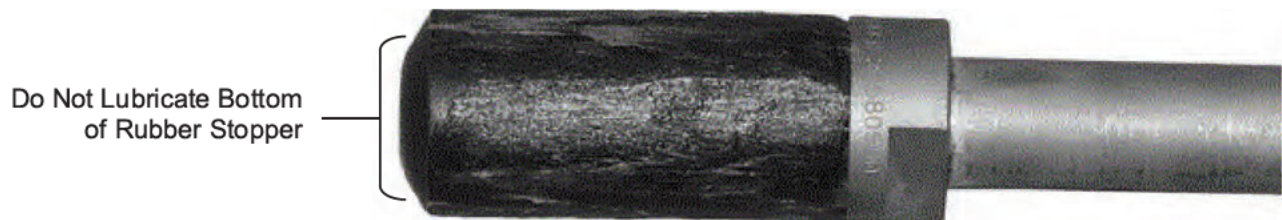

Figure 10. Lubrication of Rubber Stopper
- 5.6 Apply Mueller rubber stopper lubricant (part number 580657) to sides of rubber stopper. Do not lubricate bottom of rubber stopper. (See Figure 10.)